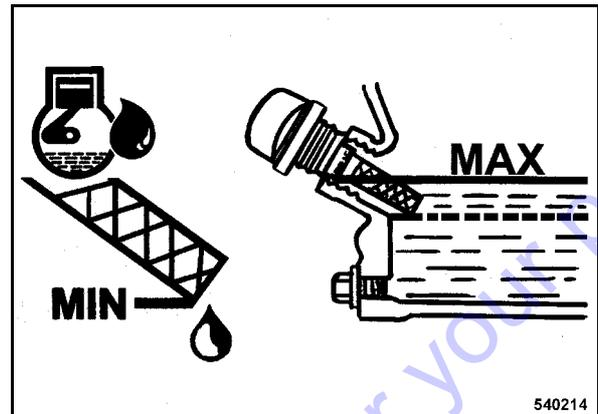

Fig. 35
- The oil level must reach the bottom edge of the filler bore (Fig. 35), maximum level.